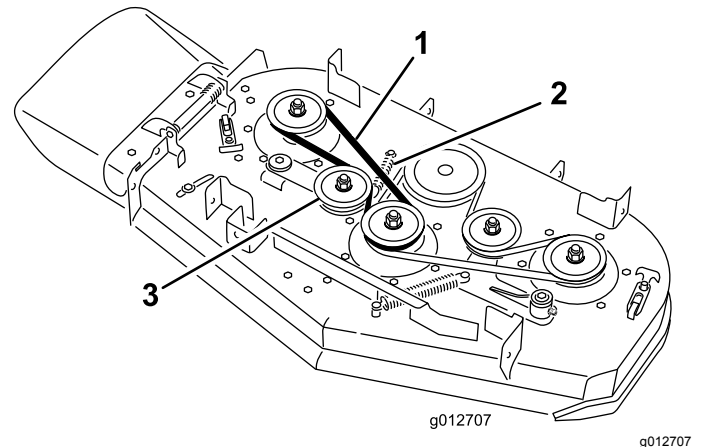

**Figure 62**
4. Remove the spring from the anchor post on the idler-pulley arm (Figure 62).
5. Remove the worn mower belt (Figure 62).
6. Install the new mower belt around the clutch pulley, the deck pulleys, and the idler pulley (Figure 62).
7. Install the spring onto the anchor post on the idler-pulley arm (Figure 62).
5. Remove the right mower-deck belt (Figure 62).
- A. Remove the spring from the anchor post on the idler-pulley arm (Figure 62).
- B. Remove the worn mower belt (Figure 62).
- C. Install a new mower belt around the deck pulleys, the clutch pulley, and the idler pulley (Figure 62).
- 7. Install the previously removed or a new mower belt around the deck pulleys and idler pulley (Figure 62).
- 8. Install the spring onto the anchor post on the idler-pulley arm (Figure 62).